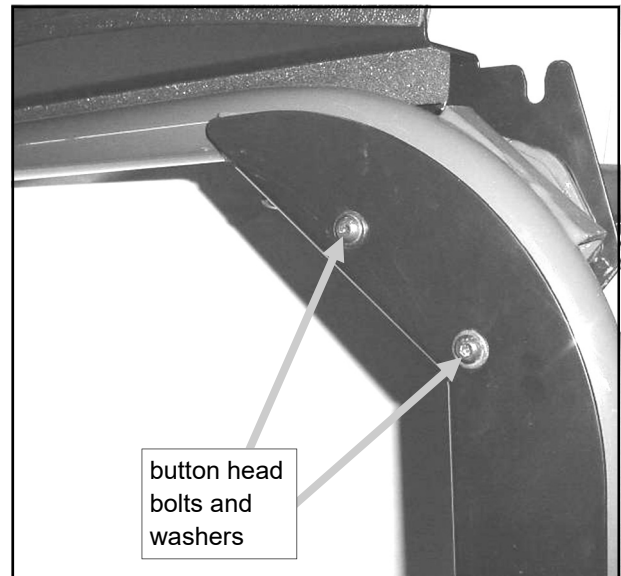
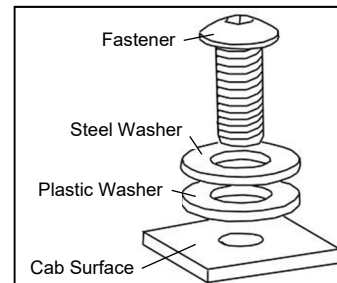
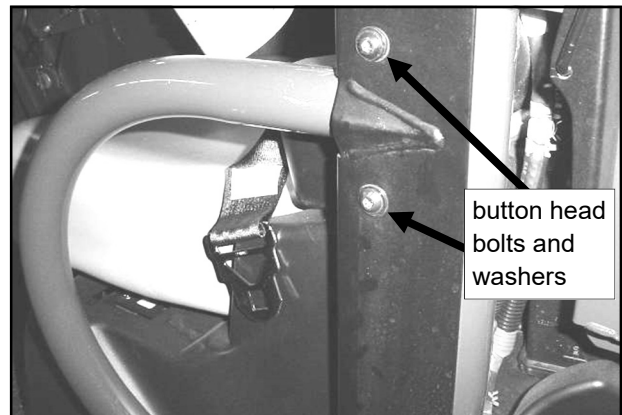

Fig. 5.4 (view of driver's side)
Fig. 5.4.1 (placement of plastic washers)
Fig. 5.5 (view of driver's side)
5.4 Install a door hinge plate to the outside of the rear ROPS tubing as shown in fig. 5.4. Use the following hardware: two 5/16-18 x 1" long button head bolts, four steel flat washers (5/16"), four plastic washers (3/8"), and two locknuts (5/16-18). Locknuts to be on the inside of the cab. See fig. 5.4.1 for placement of plastic washers. Leave bolts loose.
5.5 Fasten the lower portion of the door hinge plate to the hip restraint tube as shown in figure 5.5 using the ROPS U-clamps provided and the following hardware: two 5/16-18 x 1" long button head bolts, four steel flat washers, four plastic washers (3/8"), and two locknuts (5/16-18). Locknuts to be on the inside of the cab. Be sure to orient the U-clamp so that the angle of the clamp is aligned with the angle of the ROPS hip restraint tube that it fastens to. See fig. 5.4.1 for placement of plastic washers. Leave bolts loose.